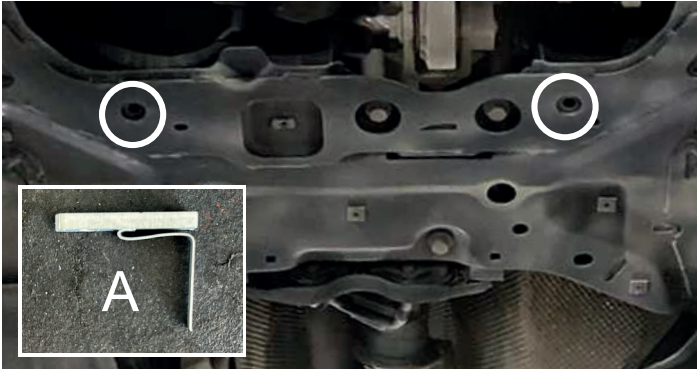

Fig. 4
4. **If not threaded:** Install M6 insert nuts (item A) into subframe as shown in Fig.4.